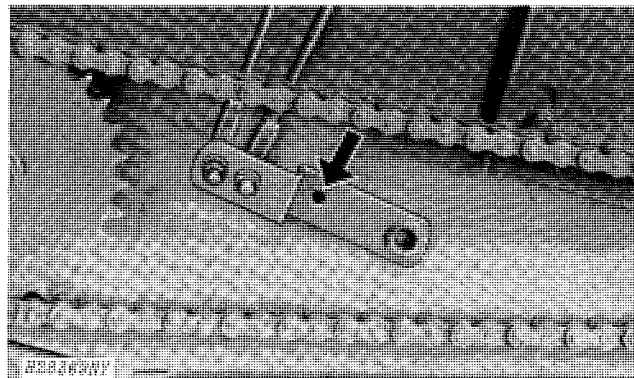

Fig. 106-Lower Actuator Arm
2. Align hole in lower actuator arm with matching hole in bulkhead (Fig. 106). Secure arm in position with pin.
7. Remove drilled pin and spring locking pin from actuator arm (Fig. 106). Give pins to customer for adjustment of automatic header height control and range indicator.